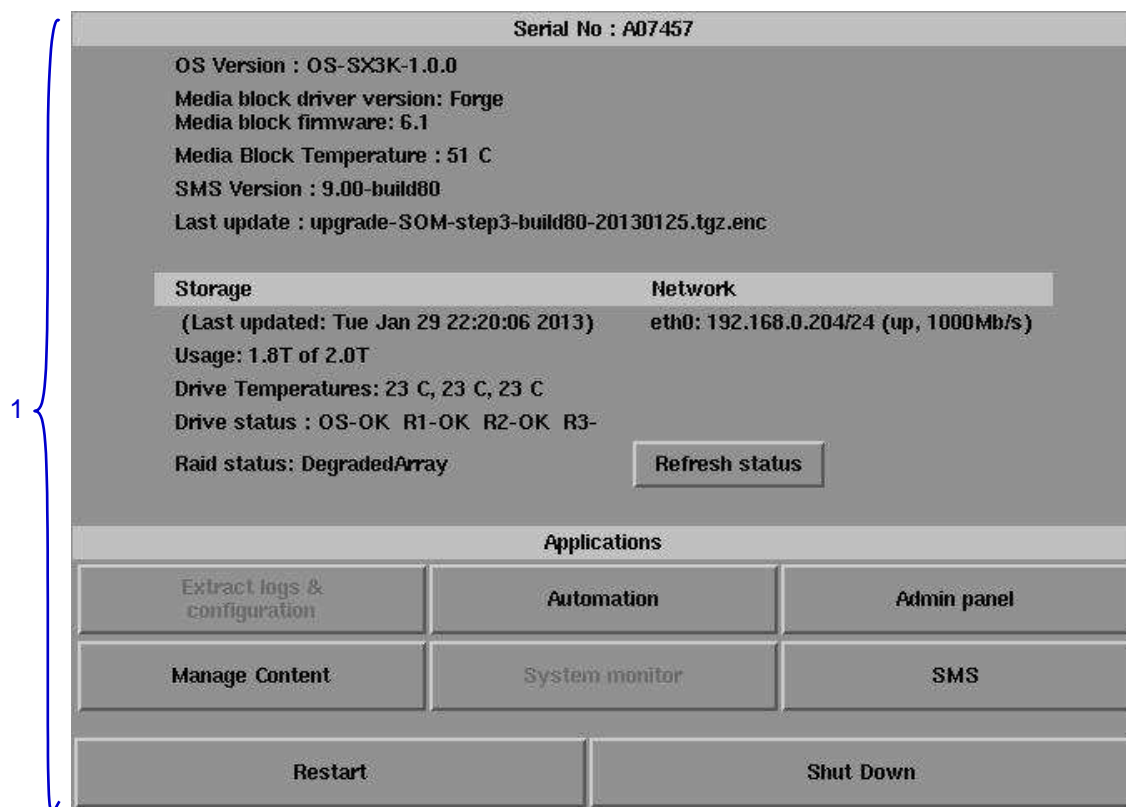

Figure 49 Control Panel menu.
- 1 Switch **ON** the IMB and allow it to boot up to prompt directly to the **SMS** interface. When the SMS interface is shown, press the **Control Panel** button and a new window for the **Control Panel** menu opens as shown in **Figure 49**. The **Control Panel** includes the **Automation** button, **Admin panel** button, **Manage Content** button, **SMS** button, **Restart** button, **Shutdown** button and a **Refresh status** button. System information including the serial number, OS version, SMS version, network and storage information can also be seen on the Control Panel UI.